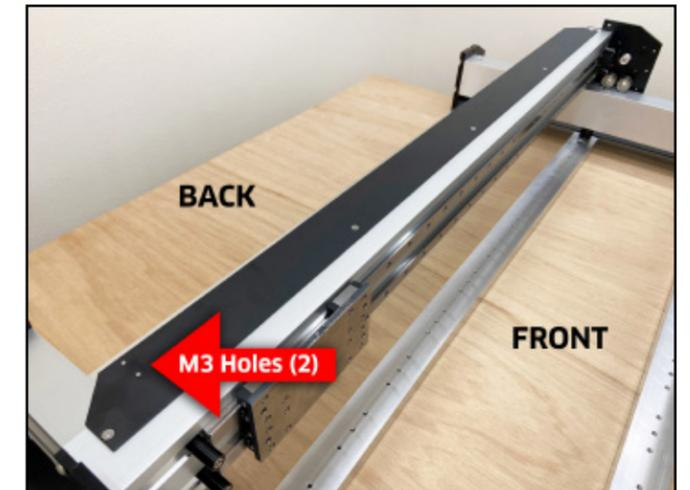

Figure 4-3
1. Position the support panel across the top-back of the gantry. See **Fig. 4-3.**
2. Use a 2.5mm hex key and five (5) M4×8mm FHS to secure the panel to the gantry.